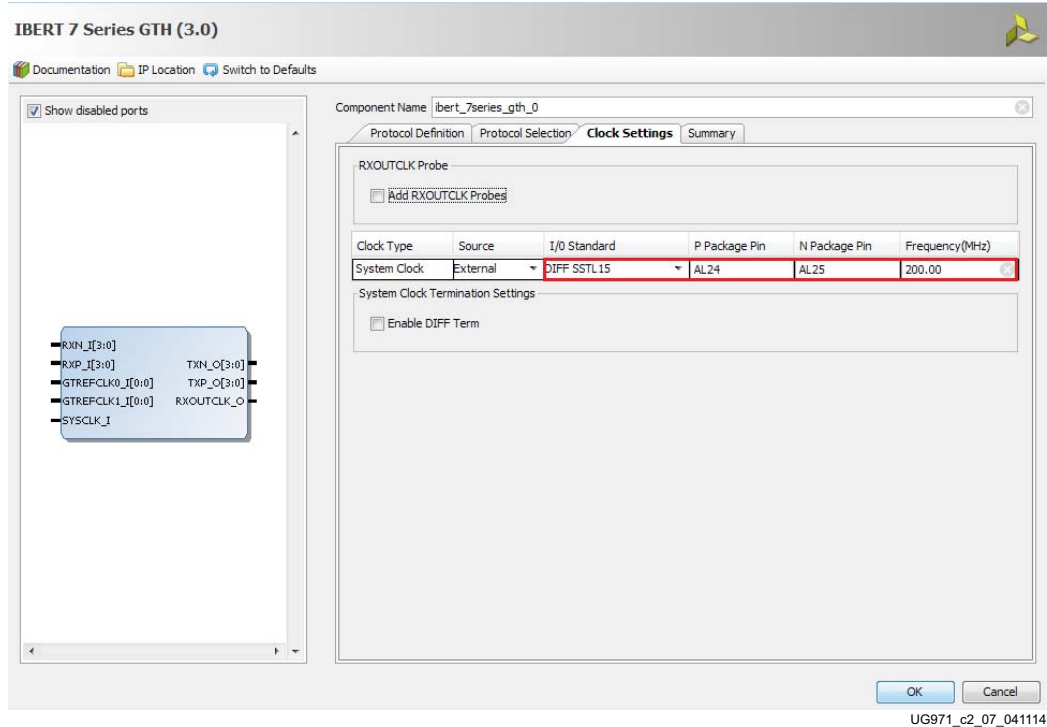

Figure 2-7: Customize IP - Clock Settings
- In the Clock Settings tab, select **DIFF SSTL15** for the I/O Standard, enter **AL24** for P Package Pin and **AL25** for N Package Pin (the FPGA pins that the system clock connects to), and ensure the Frequency is set to **200.00** (Figure 2-7). Click **OK**. Click **Generate** in the next window to generate the output products.